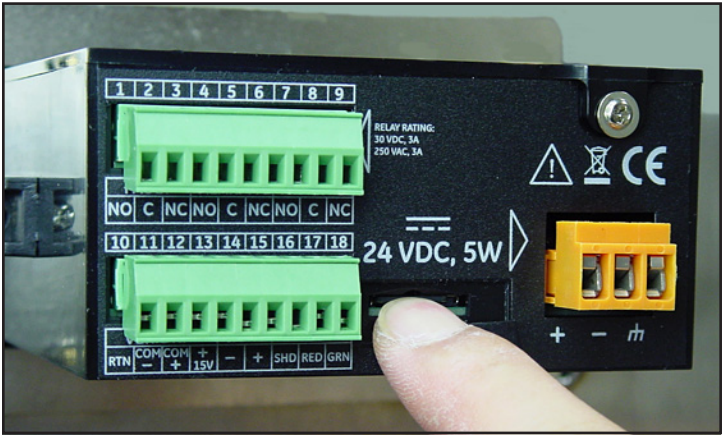

Figure 50: Pushing in on the MicroSD Card
- 2. Push in the memory card until it clicks and then release it (see *Figure 50* below).